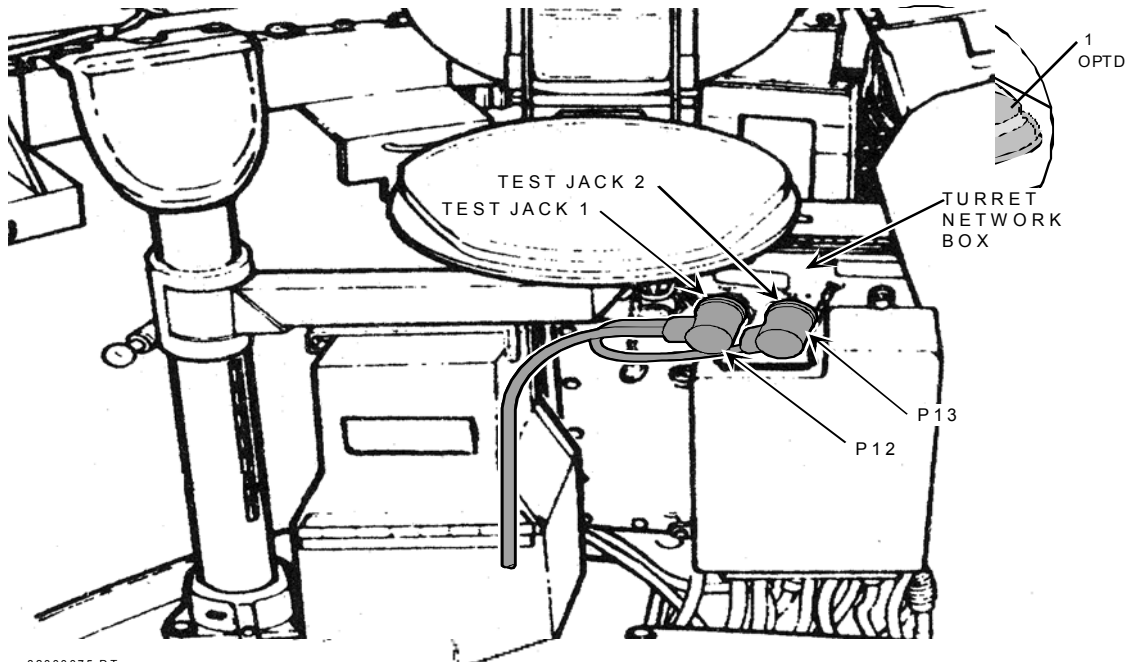

Figure 2-48. M1A1 System Cable connection to Turret Network Box (TNB).
Note: The MCS may need to be loosened and moved slightly to access Radio B (J1) and Radio A (J2) connectors. (See Figure 2-48.)
- i. **M1A1 ONLY** - Route segment (P12) and segment (P13) to the Turret Network Box (TNB). Connect (P12) to TEST JACK 1 and connect (P13) to TEST JACK 2 on the TNB. (See Figure 2-48.)